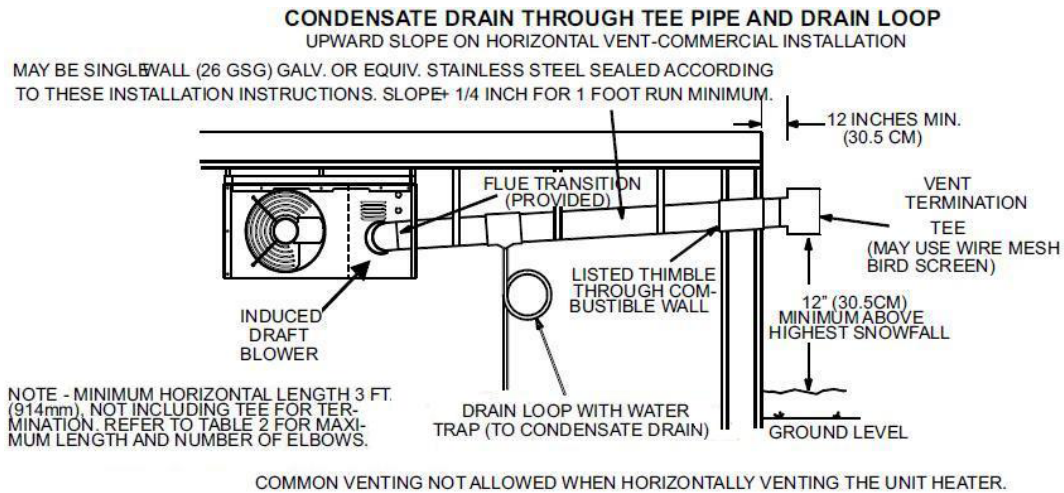

Fig.4
- Horizontal commercial installations are for buildings which are not attached to living spaces. The vent may be single wall vent material installed according to the sections General Recommendations and Requirements and Horizontal Venting – General and Horizontal Venting – Commercial. See figures 4, 5, and 6.
- Select a wall termination point that will maintain 1/4" (6mm) rise per foot (305mm) slope of horizontal run of vent pipe. The vent may be single wall material minimum 26 gauge galvanized steel or equivalent grade stainless steel. Seal single wall vent material according to the section General Recommendations and Requirements. In areas where local authorities having jurisdiction permit, a downward slope of maximum 1/4" (6mm) per foot (305mm) is also acceptable. In such cases, the vent must be listed special vent for Category III appliances or single wall vent pipe constructed of number 26 gauge galvanized steel or equivalent grade stainless steel. Seal single wall vent material according to the section General Recommendations and Requirements. Condensate drainage can be collected in a tee pipe section (figure 4) or allowed to drip through the vent termination, if permitted by local authorities.